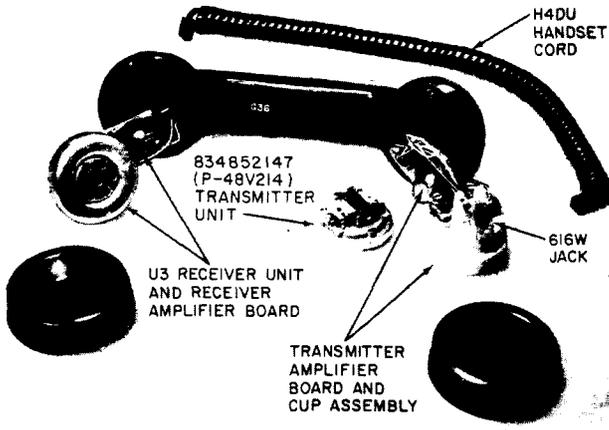

Fig. 2—G36AM Handset
- (1) Remove the transmitter cap, transmitter unit, and transmitter board assembly.
- (2) Remove the four (4) spade-tipped handset cord leads from the handset.
- (3) Install the 616W jack (ordered separately) by snapping the jack into the cutout provided on the transmitter cup at location shown in Fig. 2.